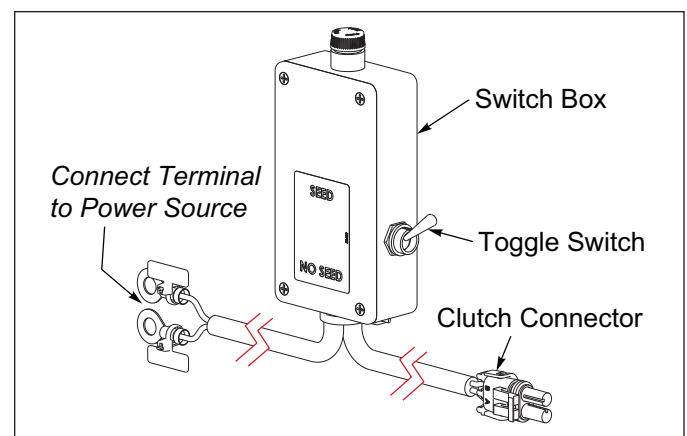

Figure 2-29: Switch Box Assembly
4. **Clutch Switch Box:** Connect Clutch Harness to Clutch Switch Box Cord. Connect Clutch Switch Box Cord with Ring Terminals to tractor power source. **See Figure 2-29.** Ring Terminals can be removed and replaced with a different power source connector.